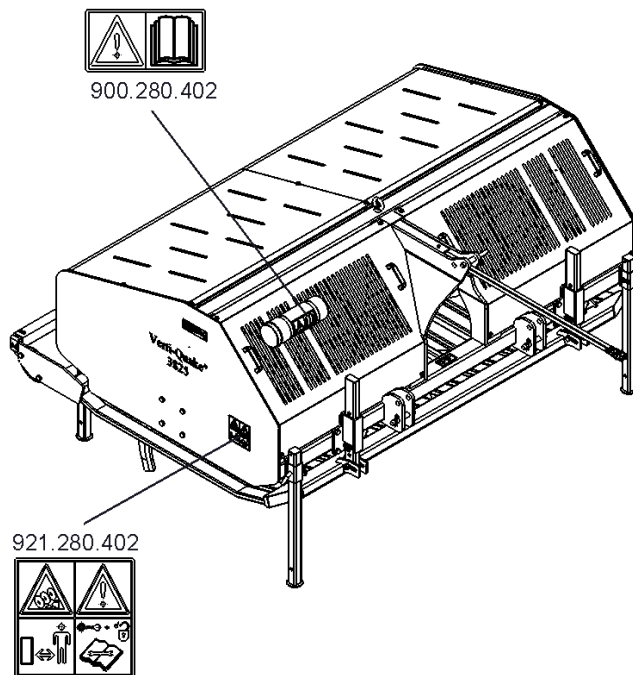

Fig. 5
There are safety stickers (Fig.5) on both sides of the Verti-Quake® one on the side panel (Fig. 5) with an identical meaning. These safety stickers must be clearly visible and legible at all times and replaced when damaged.
- (7) Locations of safety stickers. (Fig 5.)